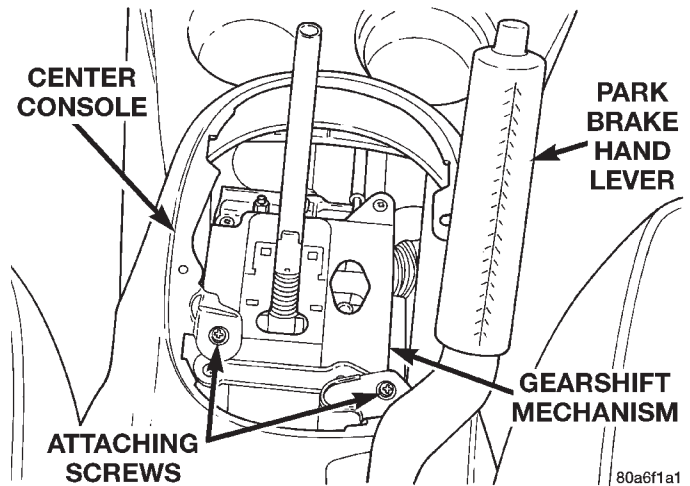

Fig. 132 Center Console Front Attaching Screw
(3) Remove the 2 screws (Fig. 132) attaching the center console to the shifter.
(22) Install the 2 screws attaching the front of the center console to the shifter (Fig. 132). Install the screw hole garnish cap and the PRNDL strip on the center console.